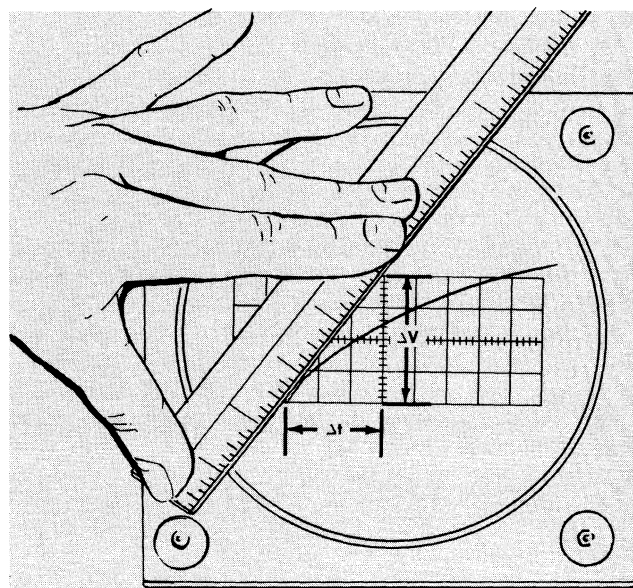

Fig. 3-7. Using a small ruler to find the voltage decay rate across the diode for purposes of measuring the effective lifetime of minority carriers.
Use the FORWARD CURRENT Switch to set the forward current at any convenient value. Then set the DIODE MODE Switch for zero reverse current to insure that the voltage decay is due entirely to recombination. Set the SENSITIVITY Switch to .05 V/CM and measure the voltage decay rate. The decay rate may either be determined from a photograph as shown in Fig. 3-6, or directly from the oscilloscope screen. If the decay rate is measured from the oscilloscope screen, place a short ruler tangent to the curve and position the ruler so that the edge of the rule passes through the corner of a least one 1-centimeter square before crossing through the vertical centerline (see Fig. 3-7). This permits you to obtain the most accurate reading of the voltage decay rate. Measure the horizontal distance corresponding to Δt and the vertical distance corresponding to ΔV . Multiply these distances by the corresponding deflection factors. When the decay rate has been determined, divide it into .026 for measurements of room temperature. If the measurement is made at other than $300^\circ K$, use approximation (1). The figure obtained in either case is the effective lifetime.